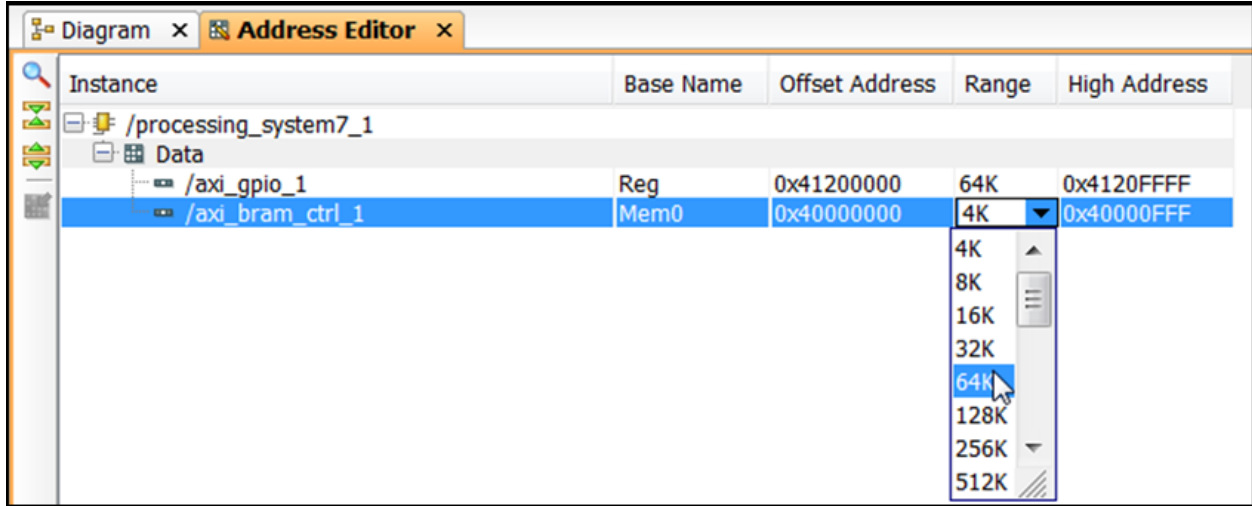

Figure 19: axi_bram_ctrl to 64k Range
8. Change the range of the AXI BRAM Controller to **64K**, as shown in Figure 19.